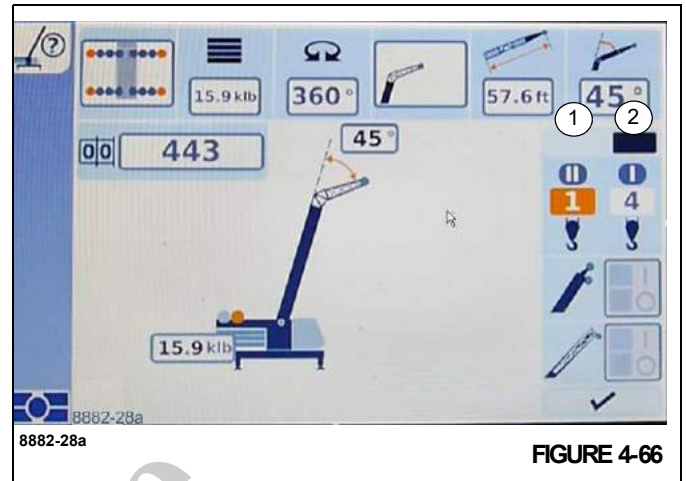

FIGURE 4-66
The load should be raised with the auxiliary hoist, for example. However, the hoist indicator (2), (Figure 4-66) for